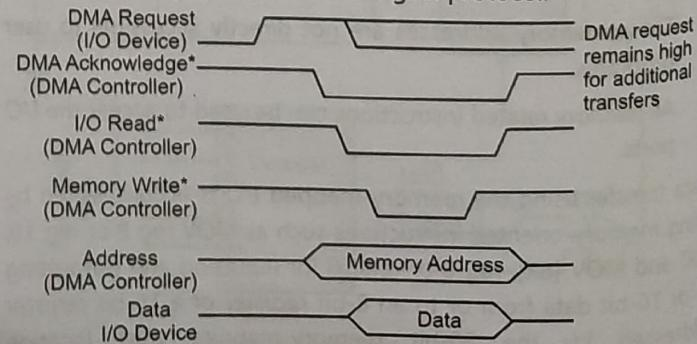

Fig. 5.6 (b) : Flyby DMA transfer signal protocol
- In other words, a flyby DMA transfer looks like a memory read or write cycle with the DMA controller supplying the address and the I/O device reading or writing the data. Because flyby DMA transfers involve a single memory cycle per data transfer, these transfers are very efficient. Fig. 5.6 (b) shows the flyby DMA transfer signal protocol.
- Fig. 5.6 (b) shows the fetch-and-deposit DMA transfer signal protocol. Although inefficient because the DMA controller performs two cycles and thus retains the system bus longer, this type of transfer is useful for interfacing devices with different data bus sizes.